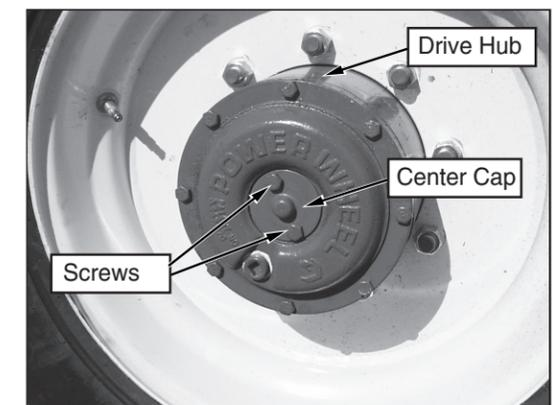

Figure 7: Drive Hub (Operating position shown) Switching Fuels (Gas / Propane Only)
2. Refer to figure 7 and disengage all four drive hubs. Remove two (2) cap screws and center cap. Reinstall center cap in the opposite direction.